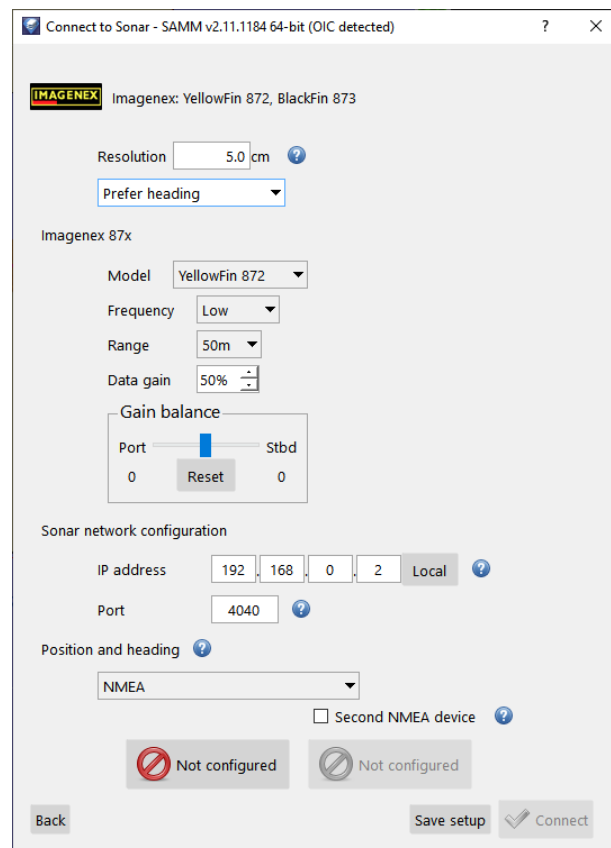

Figure 54. Imagenex 87x Interfacing
6. In the interface window (Figure 54), select sonar model and set processing and sonar parameters as necessary.